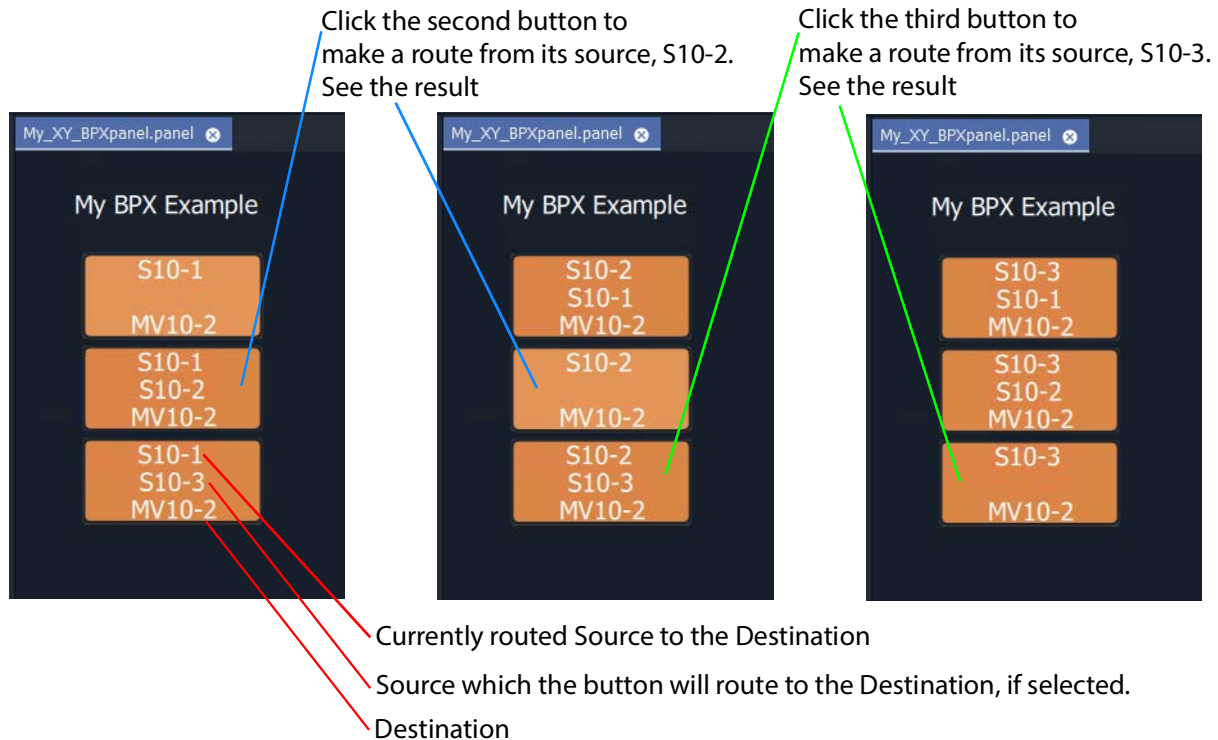

Fig. 13-54: BPX Panel Running
- 2 Operate the panel. See Figure 13-54.